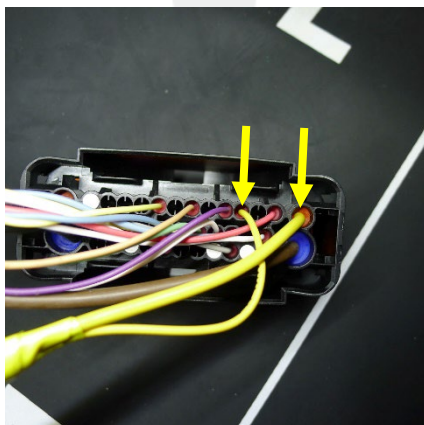

Figure 29
24. Perform a Push-Pull-Push check on each wire to make sure the wires are secure in the connector (Figure 29).